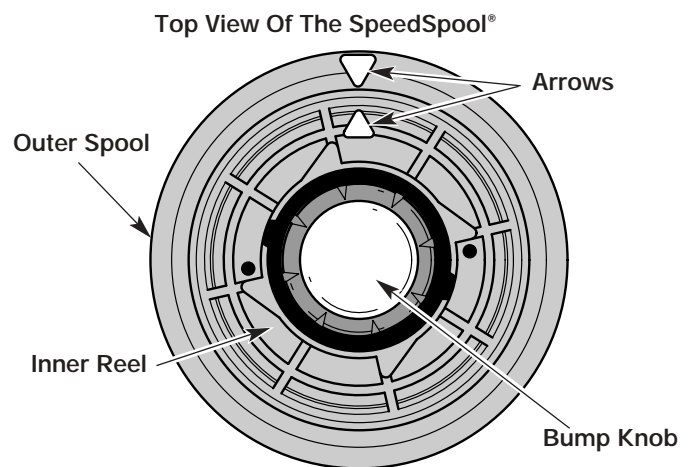

Figure 15
2. Hold the outer spool and turn the inner reel counterclockwise to line up the arrows on the outer spool and inner reel. See Figure 15.